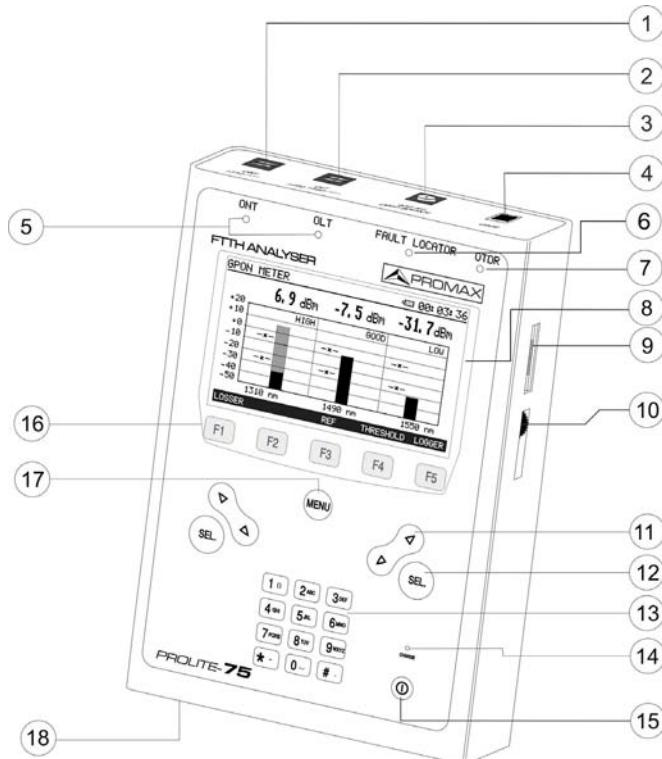

Figure 3.- Front panel.
- 1) **Stopped Instrument:** When connecting the external power it will start a rapid charging cycle, whose duration will depend on the battery status. It will take three hours for a discharged battery. The charging indicator on the front panel (see Figure 3.- [14]) will remain lit in amber colour during this period. At the end of charging and in full charge, the indicator will be green.
LCD adjustment contrast is done via the dial ( see Figure 3.- [10] ) located at the right side panel of the instrument.